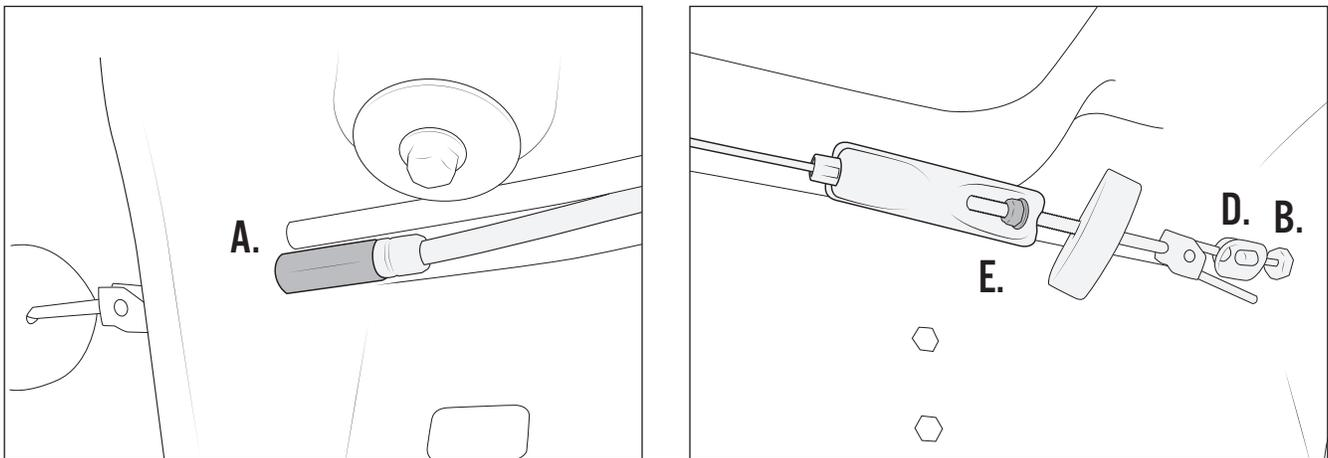

Figure 6
14. Install AEV parking brake line spacer (fig.6).